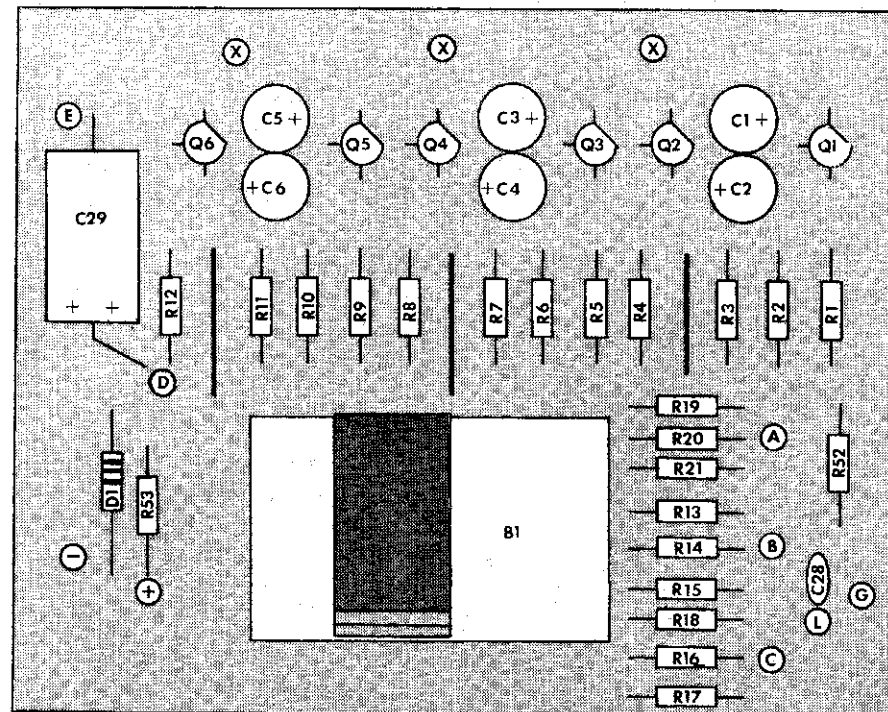

FIGURE 1
Solder each of the fixed resistors in place following the parts placement designators printed on the circuit board and the assembly drawing figure 1. Note that the fixed resistors are non-polarized and may be mounted with either of their two leads in either of the holes provided. Cinch the resistors in place prior to soldering by putting their leads through the holes and pushing them firmly against the board; on the conductor side of the board bend the leads outward to about a 45° angle. Clip off each lead flush with the solder joint as the joint is made.
- ( ) Using three pieces of solid wire left over from resistor lead trimming, form and install the three jumpers illustrated in figure 1 and shown as solid lines on the circuit board.